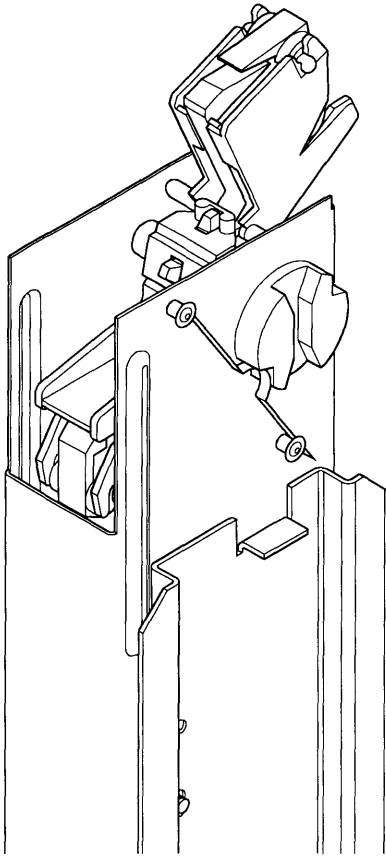

Figure 11
3. Align a support pin with the BACK edge of the slide assembly as shown (figure 11).